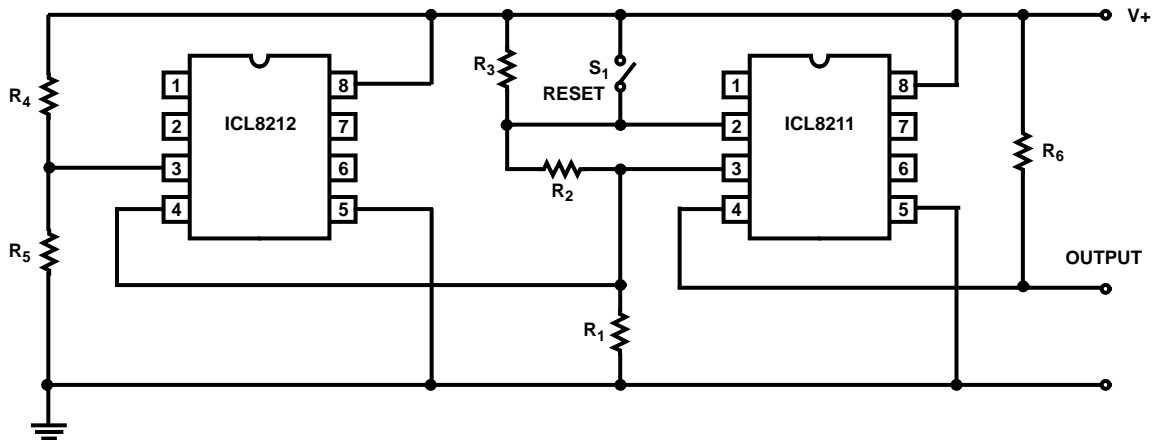
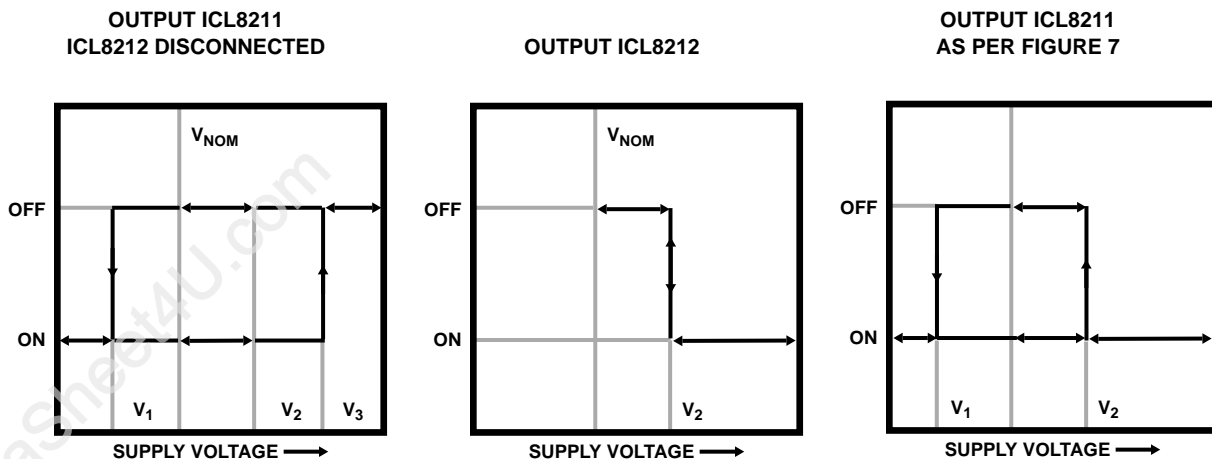

FIGURE 30. NON-VOLATILE POWER SUPPLY MALFUNCTION RECORDER
FIGURE 31. OUTPUT STATES OF THE ICL8211 AND ICL8212 AS A FUNCTION OF THE SUPPLY VOLTAGE
**Nonvolatile Power Supply Malfunction Recorder (Figure 30 and Figure 31)**